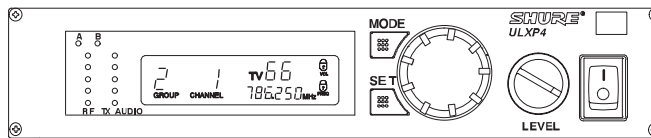

FIGURE 45
3. To activate the flashing lock icon(s), press the SET button. The display will return to the default mode and the lock icon will appear on all display screens. See Figure 45.
To unlock the ULXP4 receiver frequency and output level settings, hold down the SET button and rotate the control knob one quarter turn left-right-left. The lock icon(s) will disappear, indicating that the receiver is unlocked. See Figure 45.